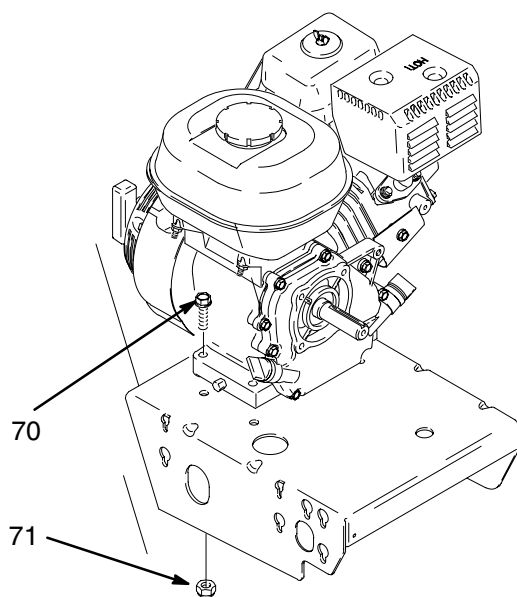

Fig. 18
3. Fig. 18. Remove two locknuts (18) and screws (17) from base of engine.
2. Fig. 18. Install two screws (17) in base of engine and secure with locknuts (18). Torque to 200 in-lb (22.6 N•m).